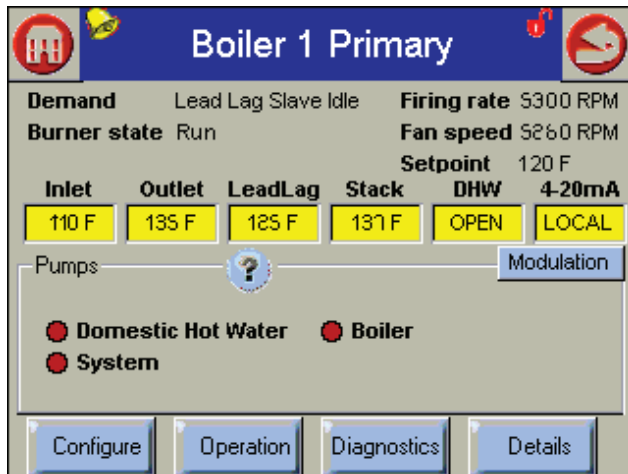

Fig. 32 - Status Summary Screen Showing Pumps Information
2. The Status Summary page for that controller will appear. This shows the current operating condition of that controller, and also shows some of the configuration settings. See Fig. 32.
In the version of the Status Summary screen shown in Fig. 32, Pumps has been selected (as shown by the label on the left side of the screen), and the indicators below show the status of each of the pumps. Red = off and green = on.